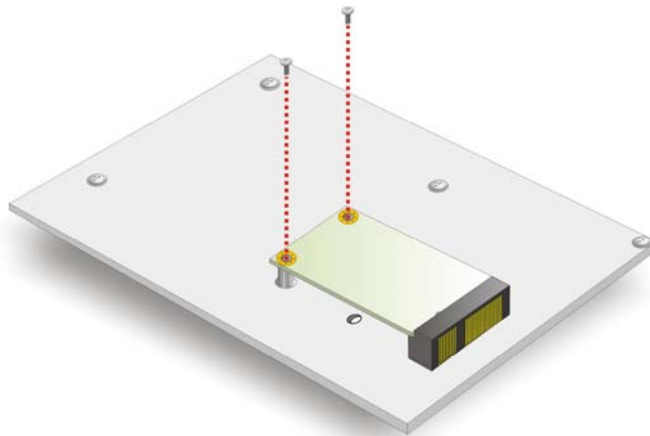

Figure 4-18: Secure the Full-size PCIe Mini Card
Step 4: Secure the full-size PCIe Mini card. Secure the full-size PCIe Mini card with the retention screws previously removed (Figure 4-18).